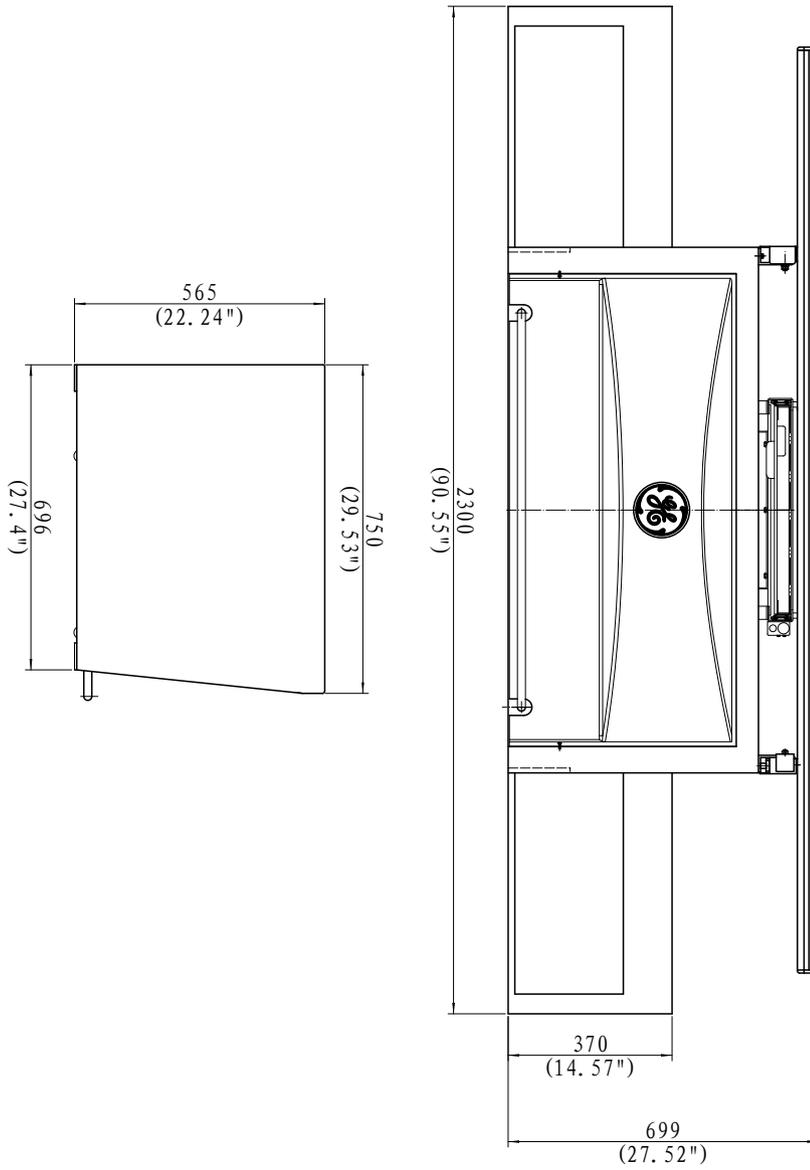
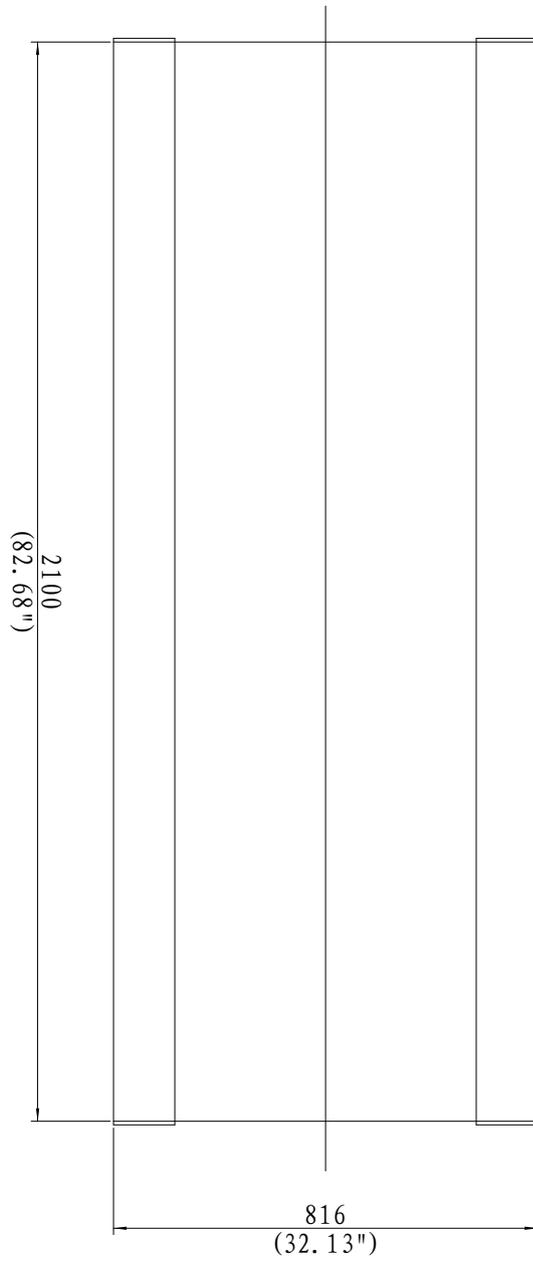

Figure 6-7 Table Dimensions
Figure 6-8 Table Top Dimensions
- Radiographic Table - Figure 6-7 through Figure 6-8.